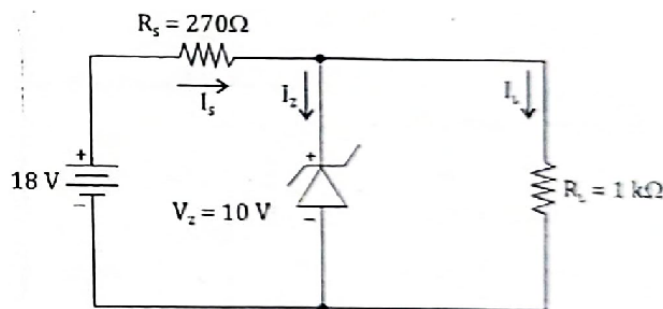

Figure 1.28: Problem 4
4. In the circuit shown in Figure 1.28 determine,